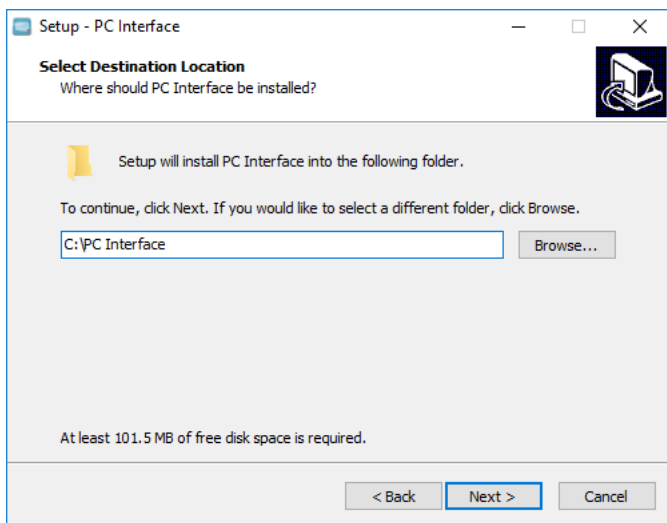

Figure 103. Installation location screen
- A prompt window appears to verify installation location. The default location is indicated in **Figure 103**, or the user can browse to a more desirable location.
- Make sure you have enough disk space to install the software (**Figure 103**). If not, you will see an error message. Select Next.